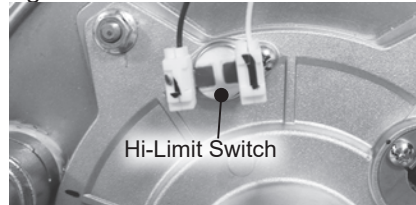

Figure 27 - Hi-Limit location
4 Locate the burner door hi-limit on the burner assembly as shown in Figure 27. Disconnect the two (2) wire leads (labeled HI-LIMIT 1) from the hi-limit assembly and route them inside the water heater cabinet for ease of access to hi-limit. See Figure 27. Figure